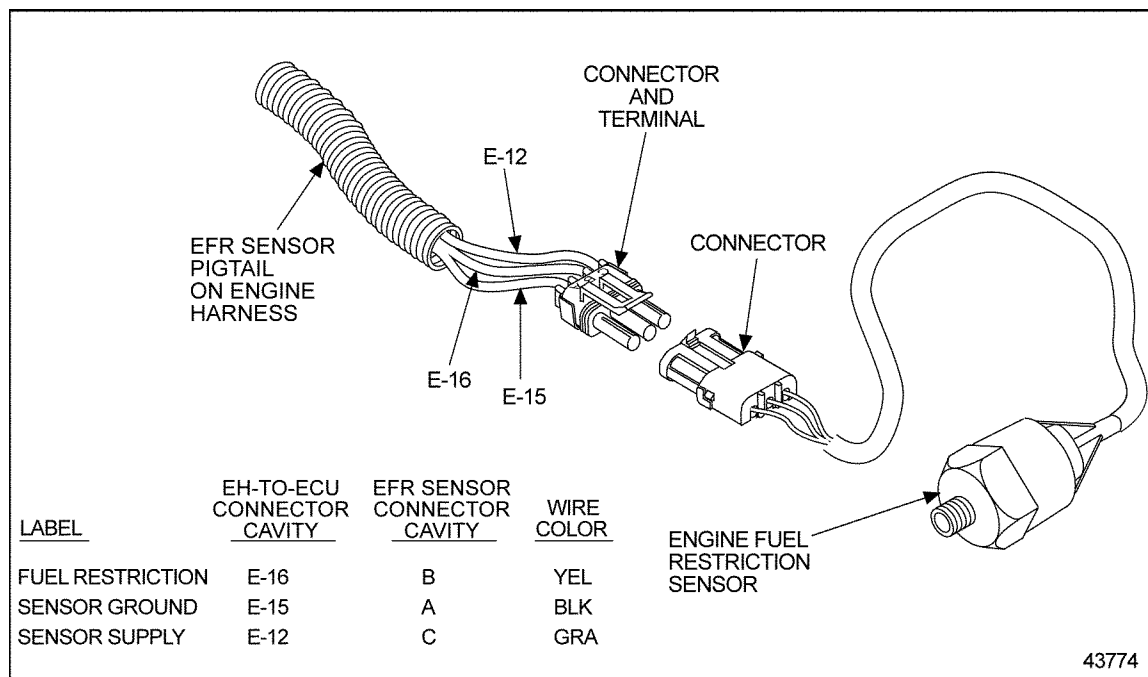

Figure 40-4 FRS/Fuel Restriction Sensor
- [b] If terminals and connectors are not damaged, replace the FRS/Fuel Restriction Sensor (see Figure 40-4) and check the active codes. If code p 95/3 is logged, reprogram the ECM/ECU. Refer to section 40.2.5.1.